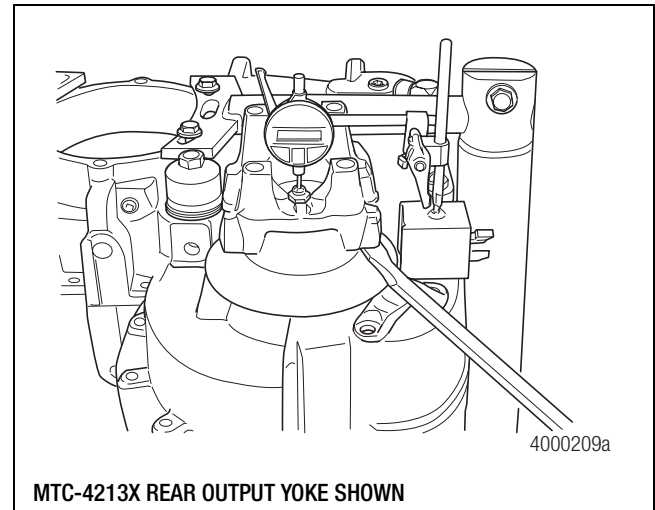

Figure 6.21
3. Set up a dial indicator to check the output shaft bearing end play. Center the dial indicator over the shaft using a ball bearing for accuracy. Figure 6.21.